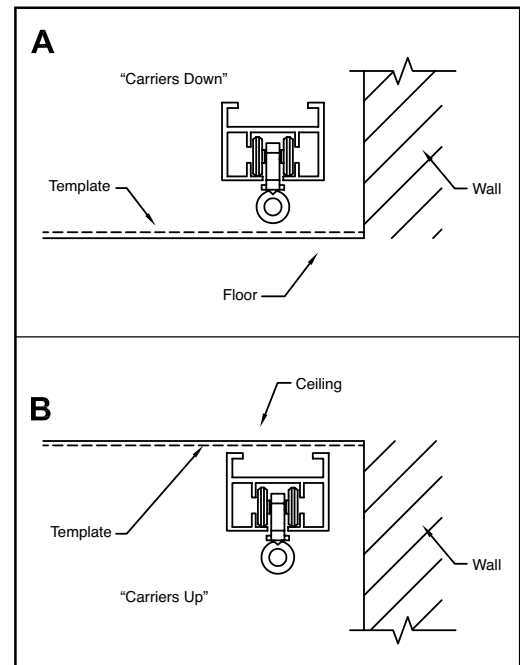

Figure 1
6. Indicate whether the template was marked with the track above (A) or below (B) (see fig.1). Carrier placement is critical for proper curvature.